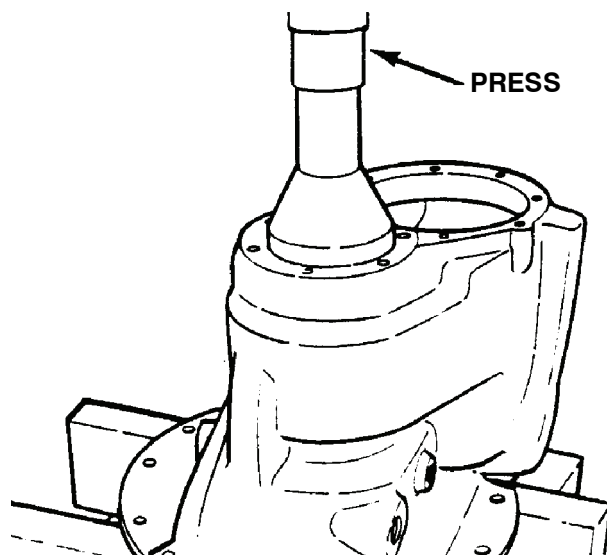

Figure 51.
- (3) Reposition carrier in press with carrier legs facing downward and block up in a safe manner. Using a suitable sleeve, press outer pinion bearing cup into bore of carrier until it bottoms. If a press is not available, use a sleeve or brass drift and mallet to tap the cup into position. Refer to Figure 51.